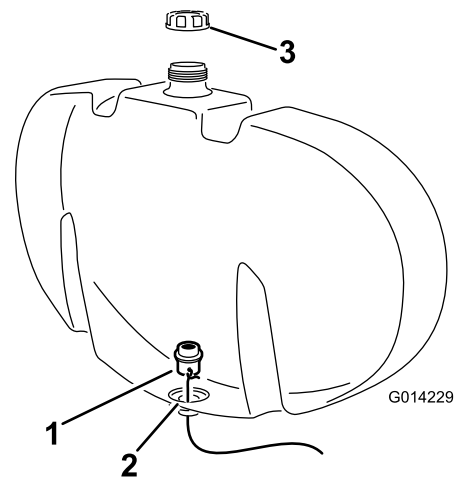

Figure 10
- D. Use the wire to guide the bulkhead fitting to the outlet (Figure 10).
- E. Move the bulkhead fitting into position making sure that the flanged gasket seats against the interior wall of the rinse tank (Figure 10)